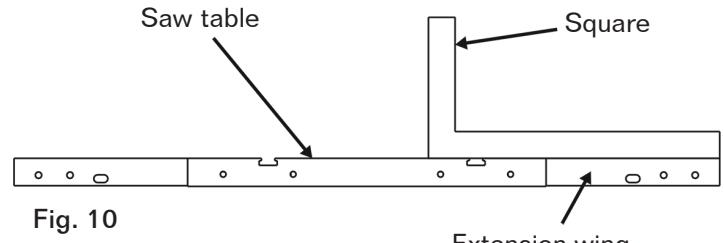

Fig. 10
- Check extension table on opposite side of blade. Repeat the above procedure until it reaches the Squareness. (Fig.10)